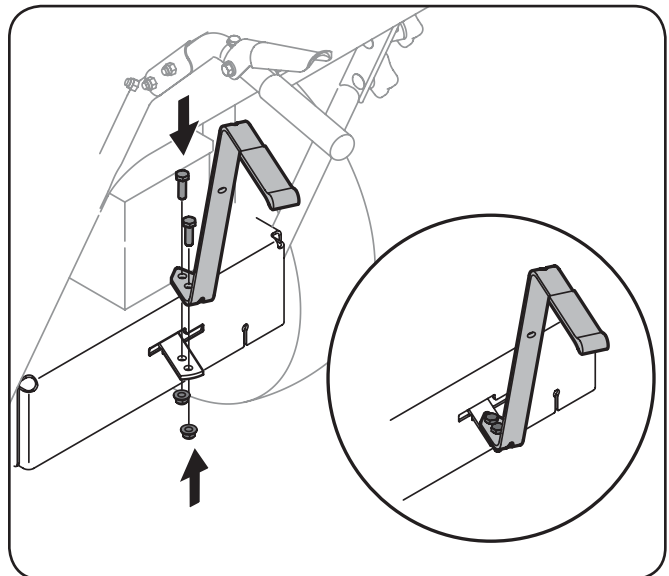

Figure 3-6
3. Position the upper shift lever into a vertical position aligning the holes in the lever with the holes in the shift plate. See Fig. 3-6.
4. Secure the lever to the plate using the two screws and two nuts removed earlier. See Fig. 3-6 inset.